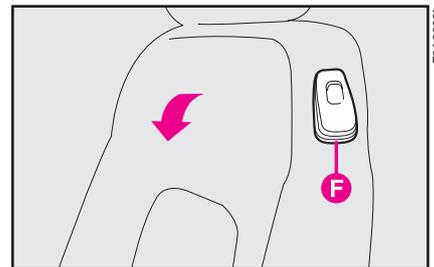

fig. 59a
**From driver's side:** pull handle **F**-fig. 59a upwards to tip the seat back.